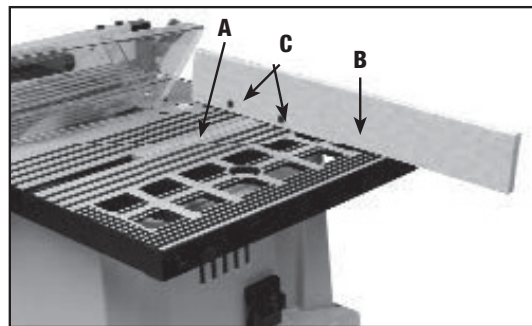

Fig. 39A
For added safety and convenience the miter gauge (A) can be fitted with an auxiliary wood-facing (B), as shown in Fig. 39A, that should be at least 1 inch higher than the maximum depth of cut, and should extend out 12 inches or more to one side or the other depending on which miter gauge slot is being used. This auxiliary woodfacing (B) can be fastened to the front of the miter gauge by using two wood screws (C) through the holes provided in the miter gauge body and into the woodfacing.